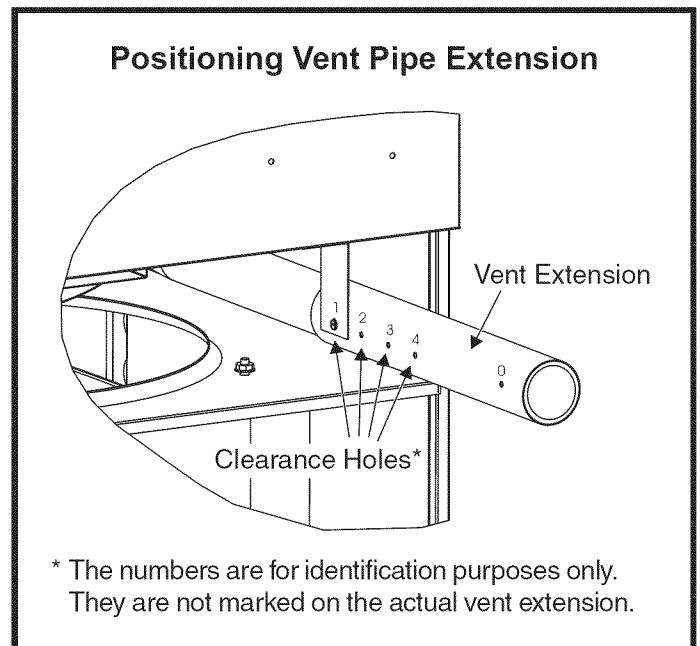

Figure 4
4. Five holes have been drilled into the vent extension (see Figure 4). Four of those holes are provided so that the vent can be extended the necessary length required for the installation. The wall sleeve that is installed determines which of these clearance holes should be used. Using Table 2 and Figure 4, determine which clearance hole should be used to position the vent extension properly. Slide the vent extension outward and line up the correct clearance hole on the vent extension with the hole in the vent pipe and the hole in the mounting bracket.